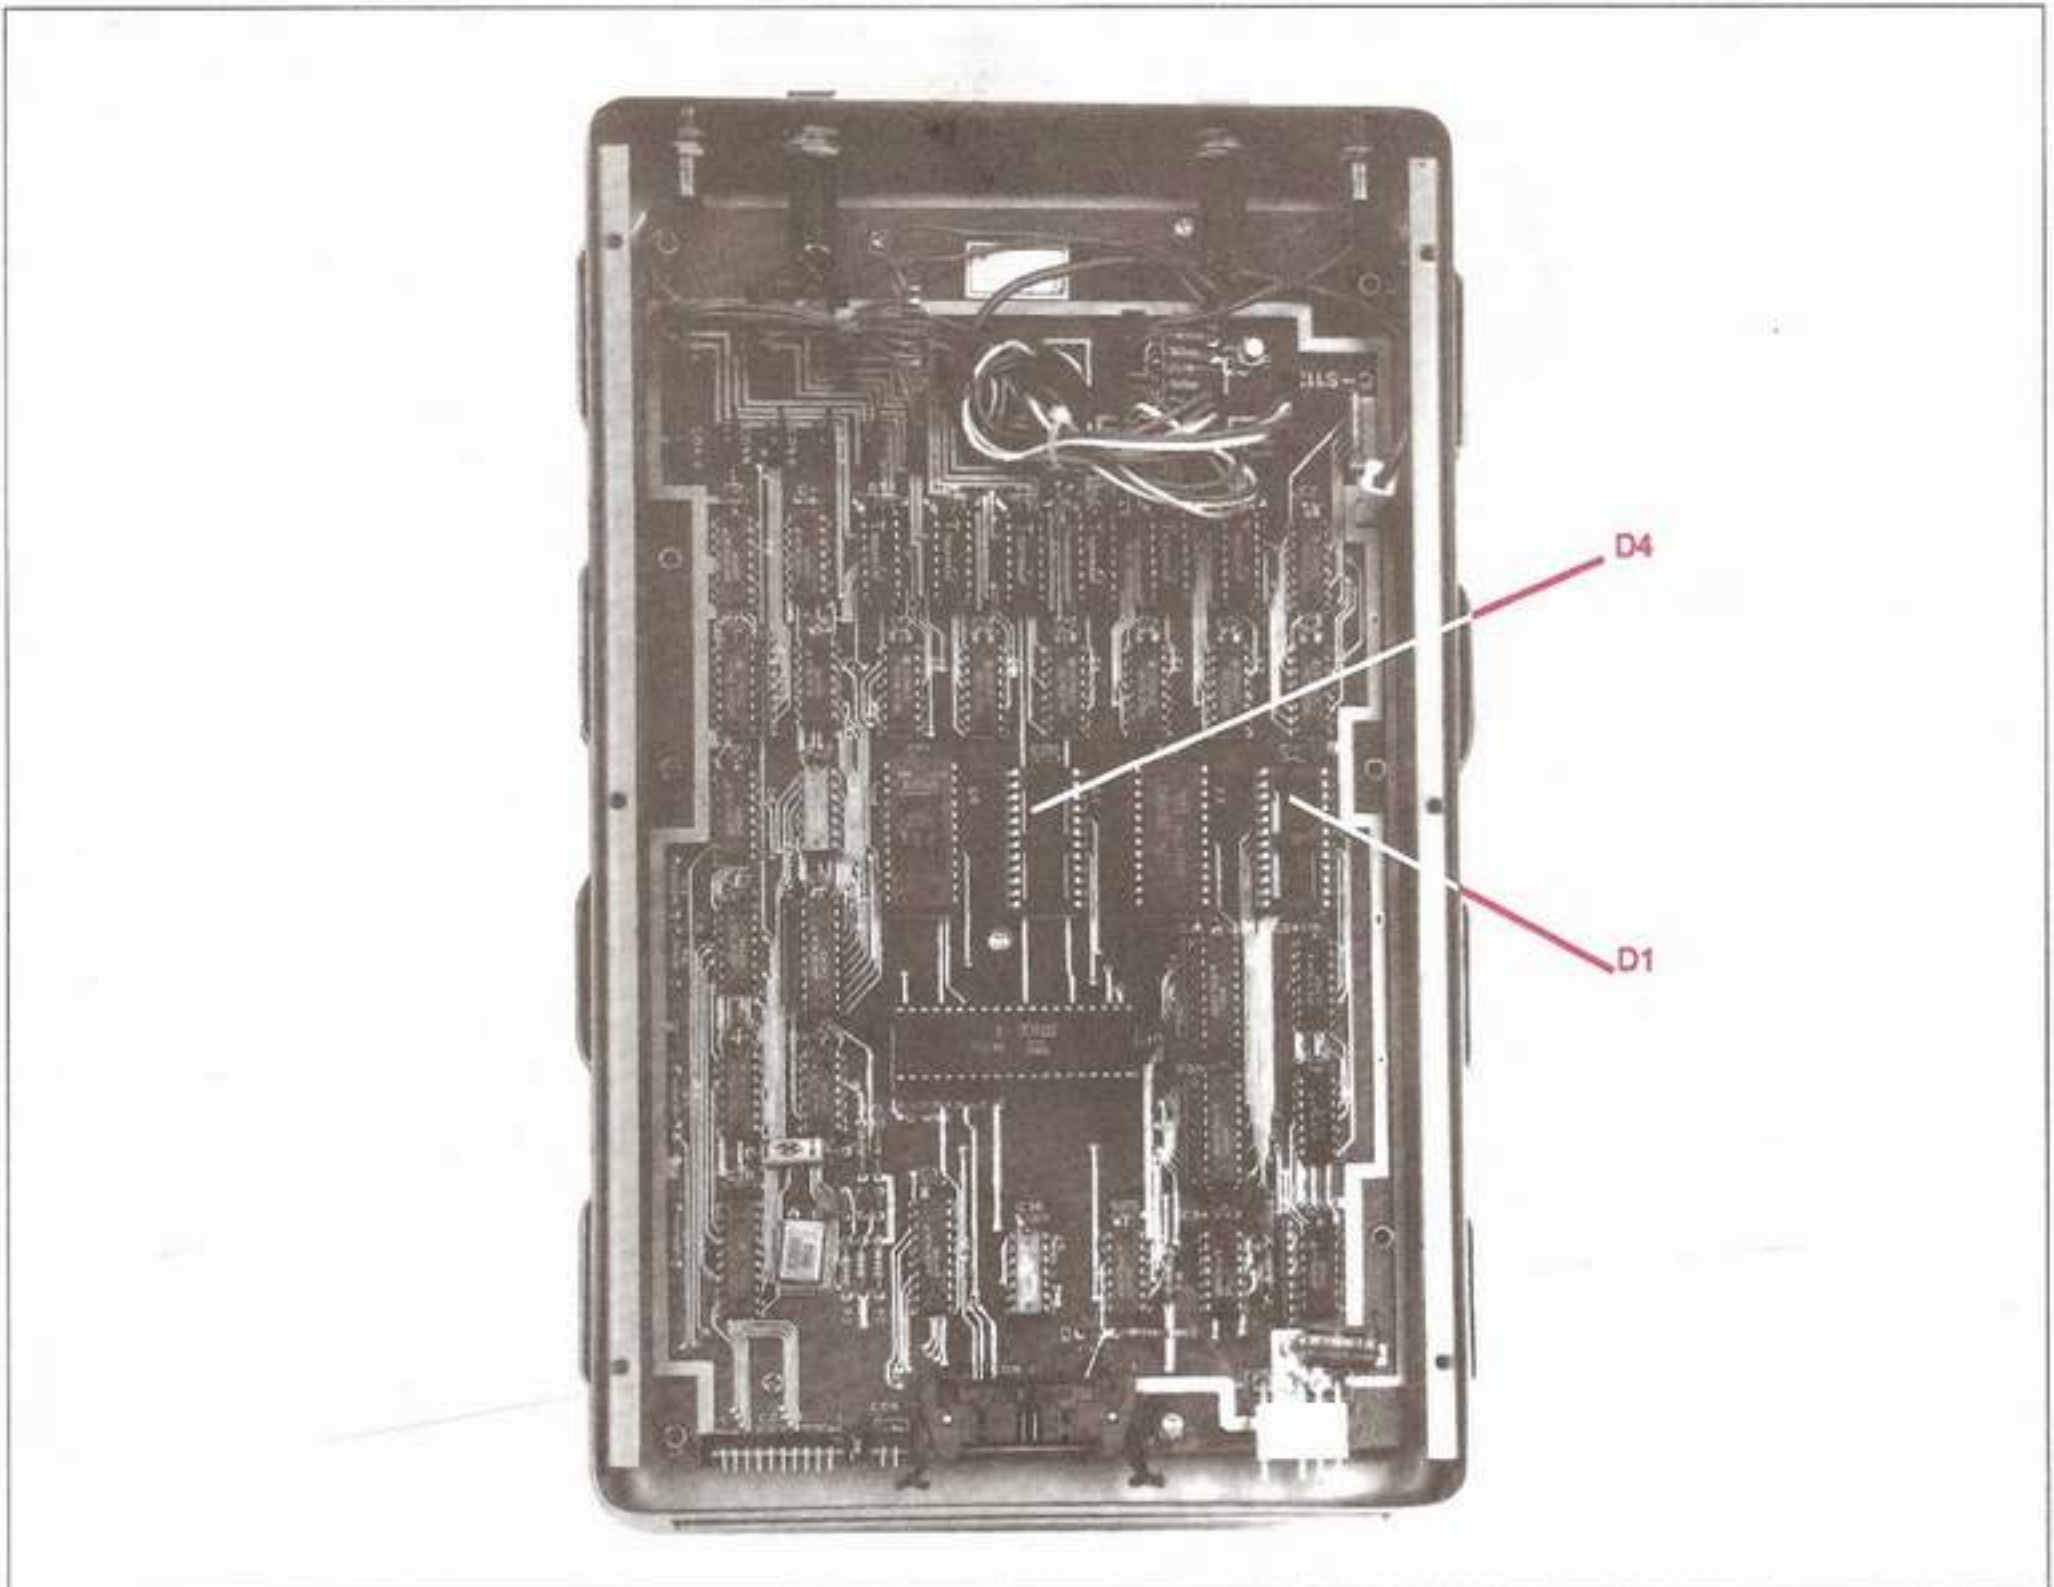

Fig. 63: Memory Area of the PCB
In the Pro-Arm, RAM is contained in a 24-pin DIP (*Dual In-line Package*) chip inserted into socket "D3" on the printed-circuit board (see Fig. 63). This chip holds 2048 8-bit locations (**2K**) for data. Since memory
An additional RAM chip may be added in order to expand the memory capacity of the Pro-Arm up to 270 axes positions, doubling the Pro-Arm's existing RAM capabilities from 2048 8-bit locations to 4096 8-bit locations (**4K**). Before going any further, find empty IC socket "D4", located on the PC board underneath the baseplate, as shown in Fig. 63. The following lab exploration can be used when RAM memory expansion becomes desirable.
- ___ c. Insert a 4016 or a 6116 RAM IC into the "D1" socket. (Refer to Fig. 63). *Note: An IC just like it should already be inserted into socket D3. Caution: Make sure that Pin #1 on the chip is aligned with the Pin #1 marking on the socket.*
- ___ c. Insert the 2732 EPROM IC containing the program you wish to internalize into the "D4" socket. Refer to Fig. 63. *Note: An IC just like it, containing the two self-test programs, should already be inserted into socket "D6". Information on the proper programming of the 2732 EPROM is not a part of this project. You will need to familiarize yourself with the Z-80 Microprocessor command set and have some previous programming experience to successfully accomplish this task. You may consult the documentation included with your EPROM burner for further details.*